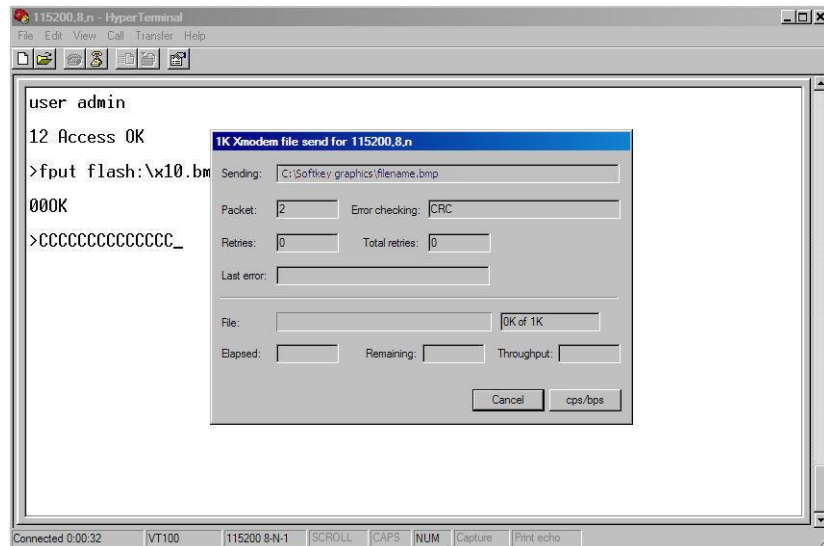

Figure D-10: File Transfer Dialog Box
6. Click OK. A progress bar will indicate that the file is being uploaded. Once upload is complete, the Cancel button changes to OK (Figure D-10). Close the dialog box.